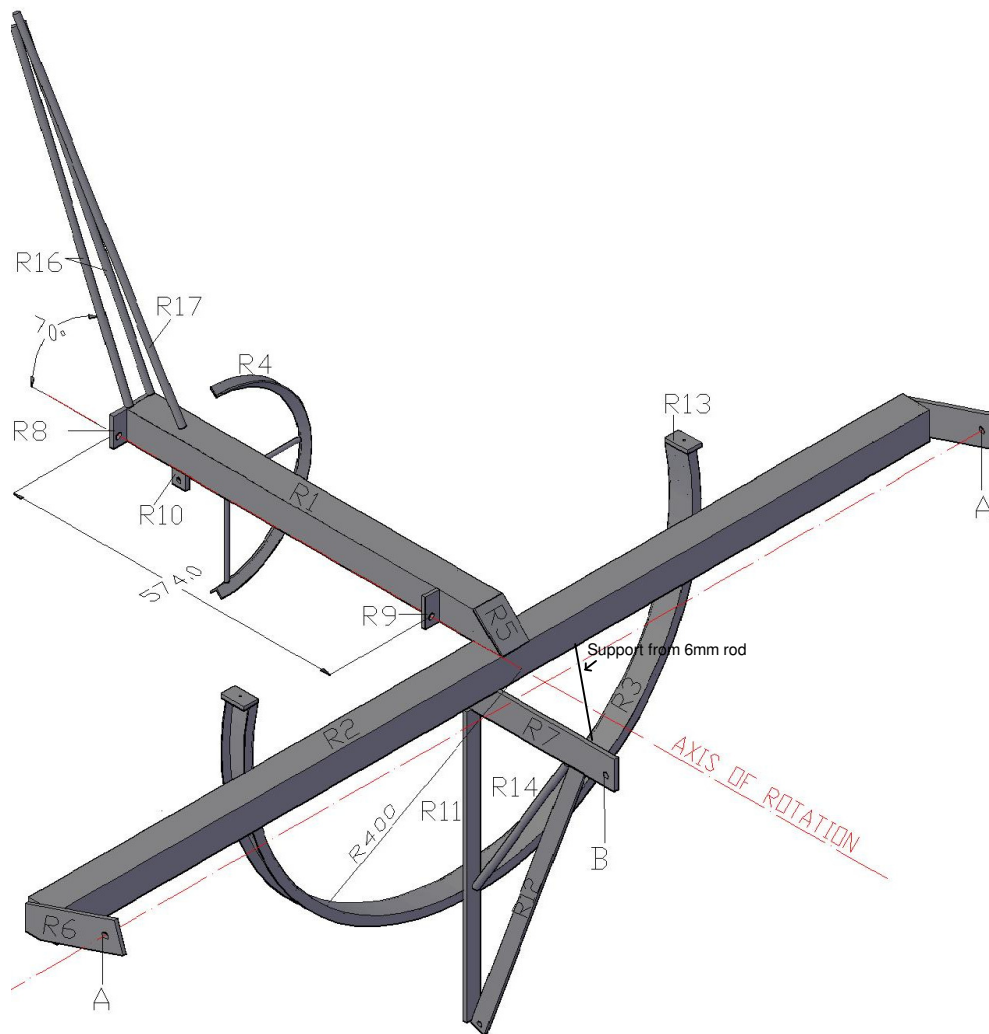

Fig. 6: Rotating Support
- Step 11** Weld R16 and R17 to R1 as shown in Fig.6.